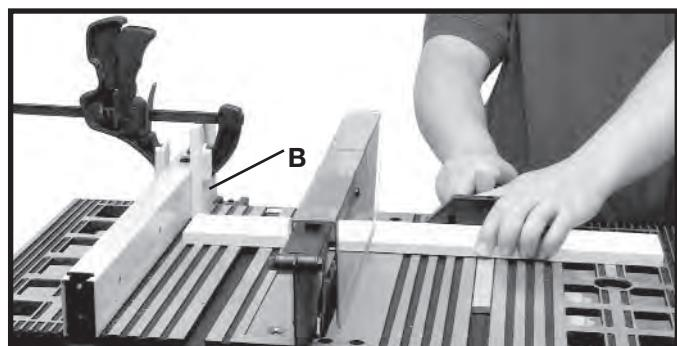

Fig. 39B
When cross-cutting a number of pieces to the same length, a block of wood (B) Fig. 39B can be clamped to the fence and used as a cut-off gauge as shown in Fig. 39B. It is important that this block of wood always be positioned in front of the saw blade as shown. Once the cut-off length is determined, secure the fence and use the miter gauge to feed the work into the cut. This block of wood allows the cut-off piece to move freely along the table surface without binding between the fence and the saw blade, thereby lessening the possibility of kickback and injury to the operator.
⚠CAUTION WHEN USING THE BLOCK (B) FIG. 39B, AS A CUT-OFF GAUGE , IT IS VERY IMPORTANT THAT THE REAR END OF THE BLOCK BE POSITIONED SO THE WORK PIECE IS CLEAR OF THE BLOCK BEFORE IT CONTACTS THE BLADE.